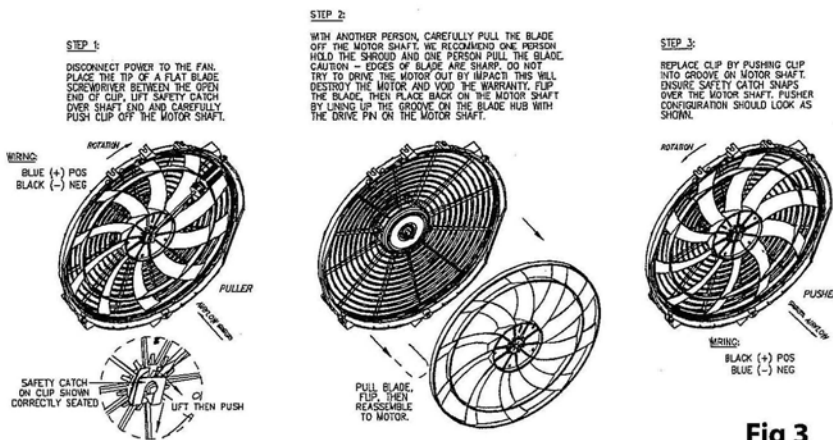

Fig 3
3. The fans contained in this assembly are assembled in puller configuration from the factory. While these fans can be reversed to be pusher fans, We do not recommend using this assembly as pusher fans on the front side of the radiator due to the large amount of ram air that is blocked by the shroud. Fans used as pushers should only be used as a last resort when there are no other options for mounting. See Fig 3.